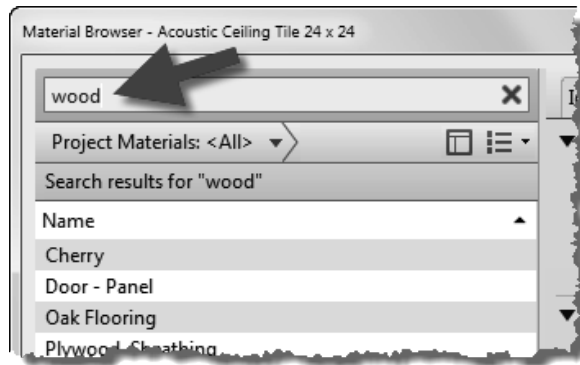

FIGURE 4-2.3 Sort by word search
**Word search** allows you to enter a term by which the *Materials* list is filtered. The image to the right (Figure 4-2.3) filters the *Materials* list down to any *Material* or *Category* containing the word “wood”